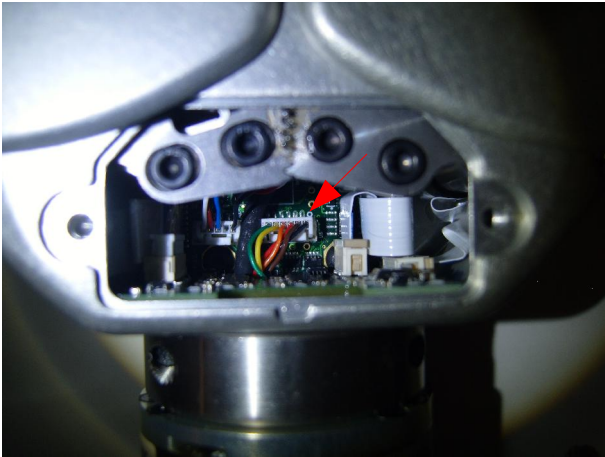

Fig. 9
12. Remove the pull wire and insert the connector as shown in (Fig. 9)